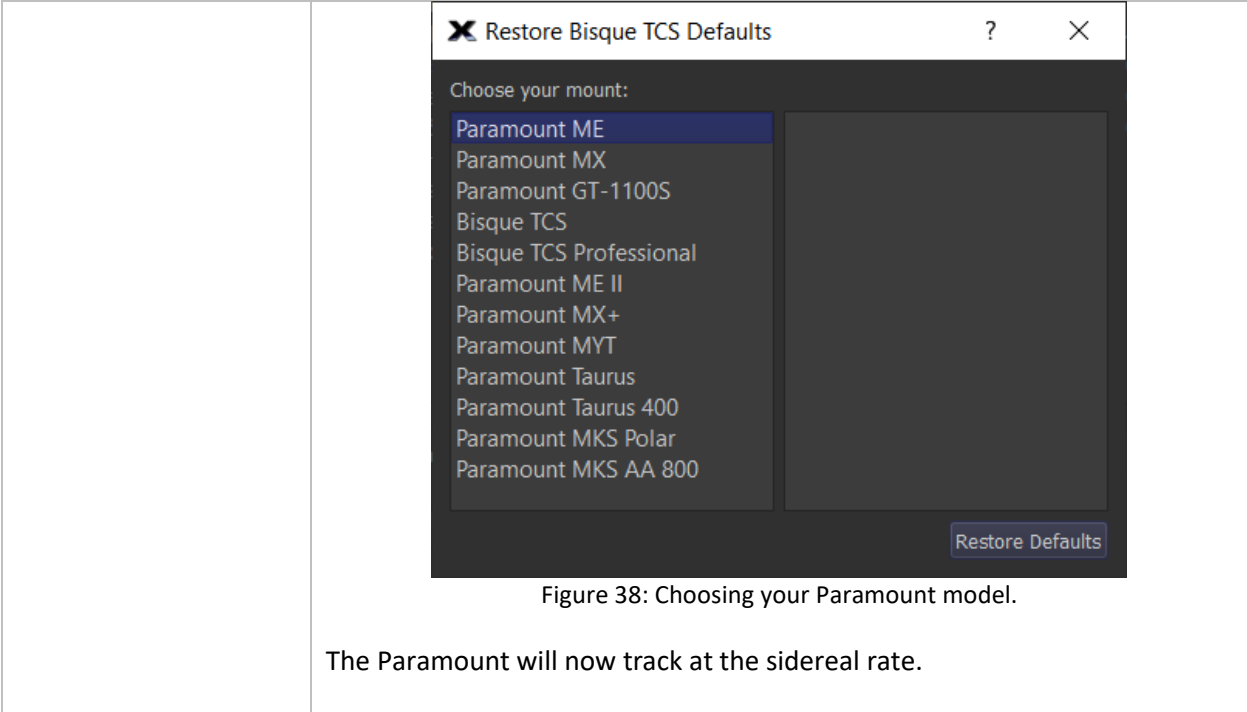

Figure 38: Choosing your Paramount model.
5. **CRITICAL:** When prompted, **be sure to choose the correct model of your mount** (Figure 38).